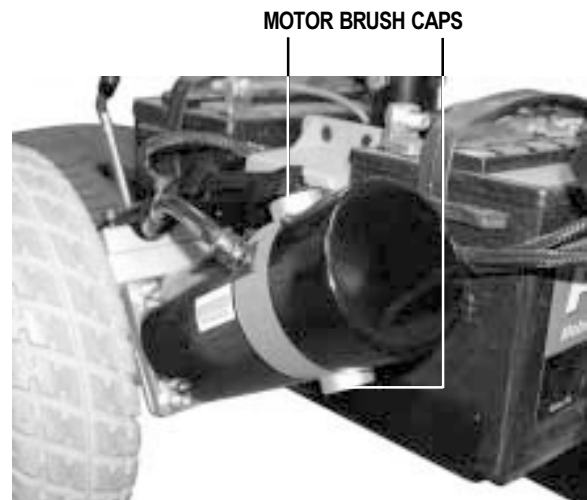

Figure 18. Motor Brush Caps
2. Unscrew the motor brush caps. See figure 18.